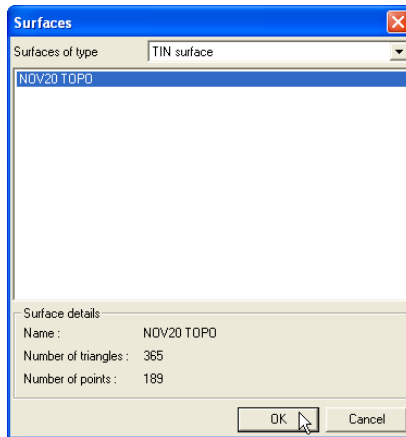

Figure 9-6. Select Surface to Compare
- On the **Surfaces** dialog box, select the Surface type from the drop-down list and press **OK** (Figure 9-6).